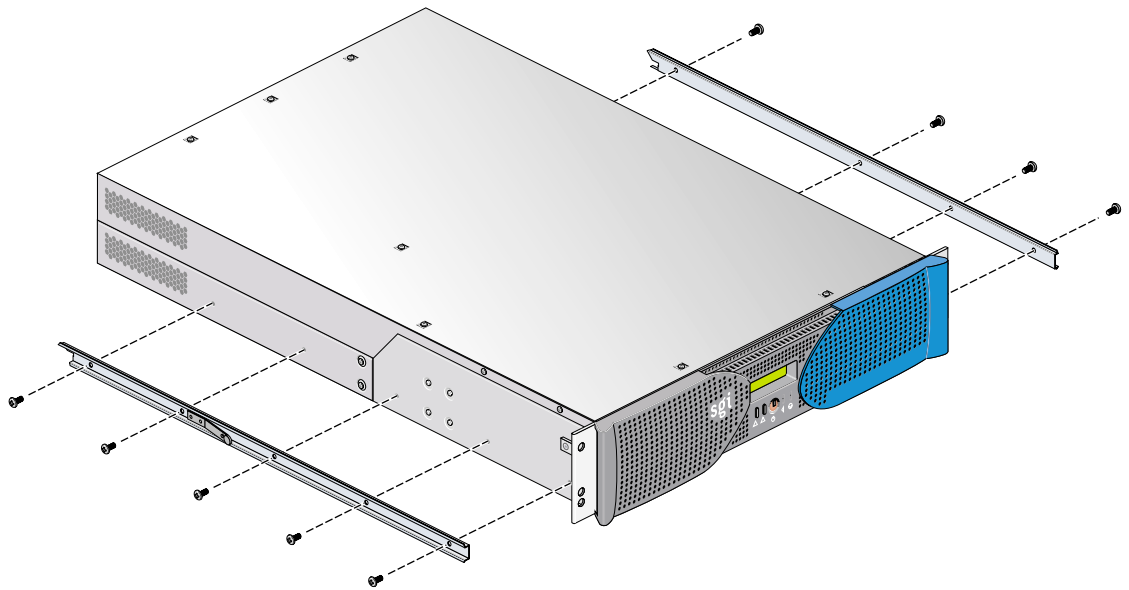

Figure C-8 Attaching Chassis Rails to the Brick Chassis
2. Using four 10-24 x 1/4-inch screws, attach one of the chassis rails to the right side of the brick chassis. Ensure that the rail is installed in the correct direction (see Figure C-8).